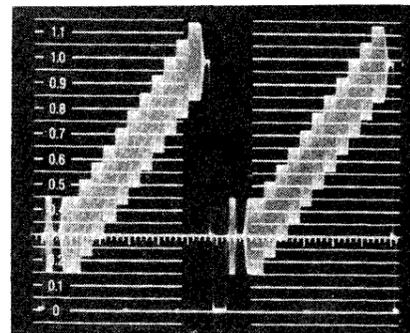

Fig. 6-2 RESPONSE control set to FLAT.
0.3 graticule. A modulated staircase signal will be displayed as shown in Fig. 6-2. In this setting, the tolerance of a frequency response is within $\pm 5\%$ from 25Hz to 5MHz.